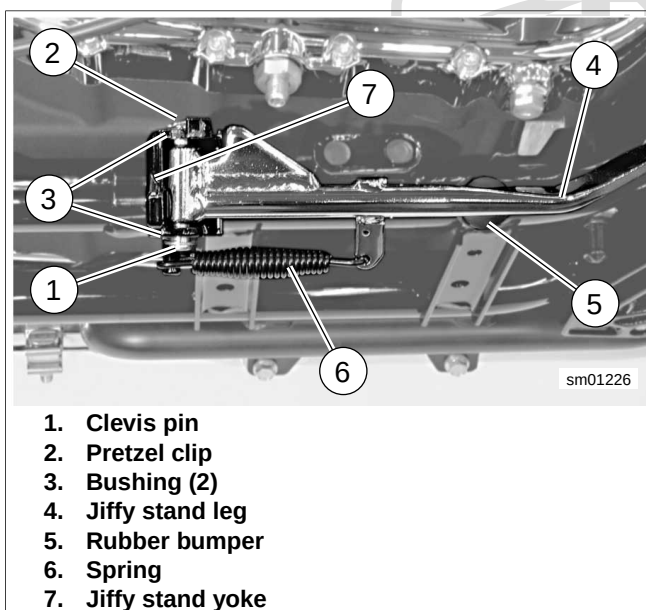
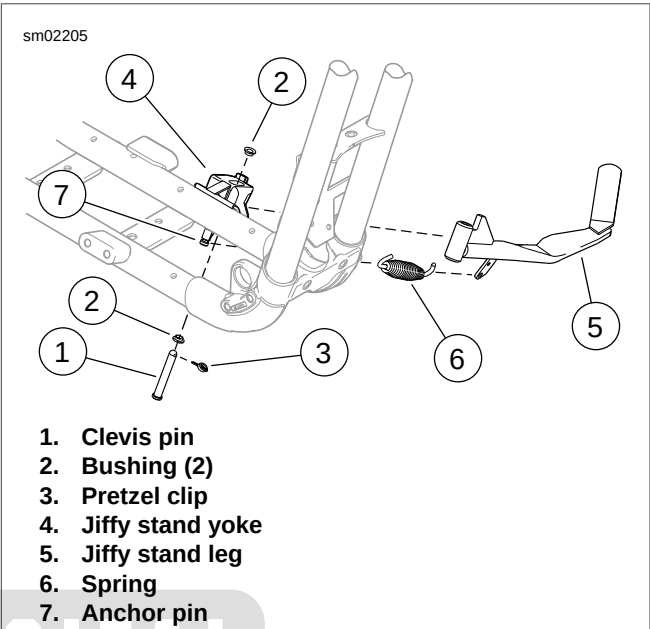

Figure 2-247. Jiffy Stand (Retracted Position) (Typical)
Figure 2-248. Jiffy Stand
See Figure 2-247. The vehicle is equipped with a jiffy stand (or side stand) that locks when placed in the full forward position (down) with the full weight of the vehicle resting on it.
2. See Figure 2-247. Remove rubber bumper (5) from frame to permit further retraction of jiffy stand leg (4). Additional spring tension relief allows for easier spring removal.
3. See Figure 2-248. Place jiffy stand leg in retracted position. Remove and discard pretzel clip (3).
1. See Figure 2-248. See 2.37 JIFFY STAND, Removal above to remove jiffy stand from motorcycle frame.
2. Thoroughly clean all jiffy stand components, including frame-mounted anchor pin and jiffy stand yoke (4).
3. Apply a small amount of wheel bearing grease to pivot holes of jiffy stand leg (5) and yoke, groove of anchor pin and O.D. of clevis pin (1).
See Figure 2-247. When installing jiffy stand spring (6), make sure open ends of spring hooks face inward toward centerline of vehicle, as shown in the figure.
2. See Figure 2-248. Hook either end of spring (6) into spring mounting hole on jiffy stand leg (5). Install other end of spring over frame mounted anchor pin (7).
3. Install bushing (2) onto clevis pin (1) with shoulder of bushing facing head of clevis pin.
4. While holding end of spring in groove of anchor pin and holding jiffy stand leg in its retracted position, place pivot end of jiffy stand leg into yoke (4) on motorcycle frame (refer to Table 2-27, for correct clevis pin application). Insert clevis pin (1) up through lower pivot hole of yoke and halfway into pivot hole of jiffy stand leg.
5. See Figure 2-247. Lift jiffy stand leg (4) upward, aligning pivot hole of jiffy stand leg with slotted upper hole of yoke (7). Push clevis pin through upper hole in yoke. Make certain that shank of lower bushing (3) fits inside lower pivot hole in yoke.
6. Install upper bushing with shoulder facing up, over end of clevis pin and against upper surface of yoke. Insert new pretzel clip (2) through hole in end of clevis pin.
7. See Figure 2-247. Press rubber bumper (5) onto mounting stud on motorcycle frame.